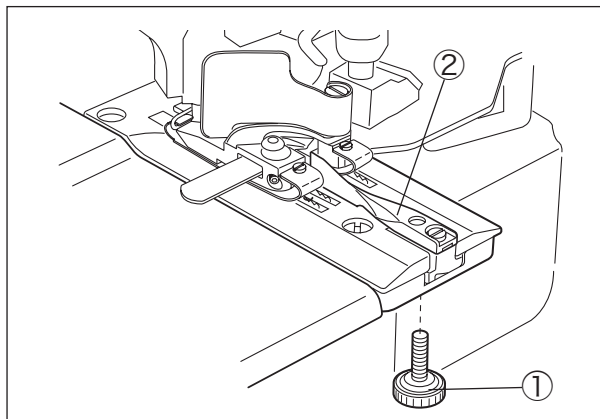

Fig. 6-40
- (8) Mount the lap former ② . (Fig. 6-40)